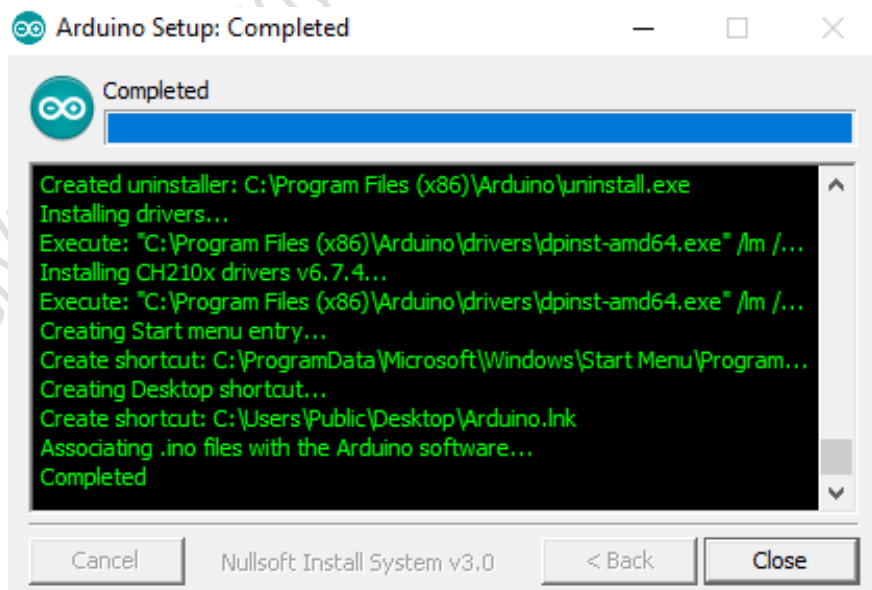

Fig.2.12: Installation Completion Window
6. After completing the installation processes, the window will appear (Fig.2.12).